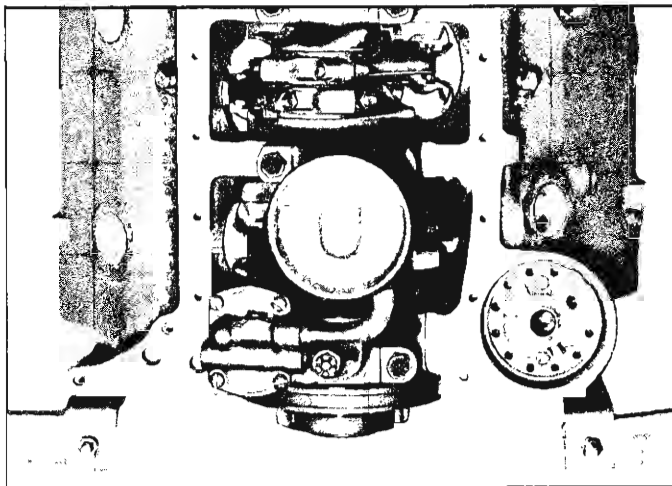

Fig. 141—Oil Pump Installed
7. Install oil splash shield on rear bearing cap if removed then, install pump to rear bearing cap bolt and tighten to 45 to 50 ft. lbs. (fig. 141).